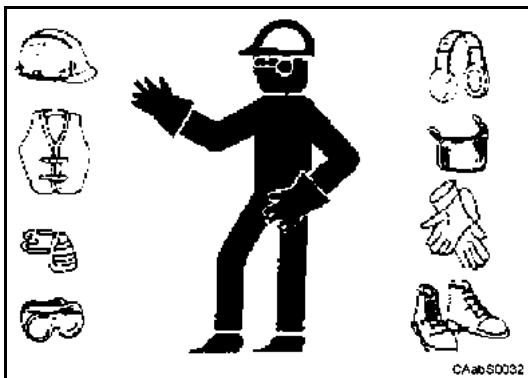

Fig. 7
- 5 Usare indumenti e protezioni adatte allo scopo come: tuta, guanti protettivi e cuffie (Fig. 7).
- 5 Wear suitable clothing and protection such as overalls, safety gloves and ear safety devices (Fig. 7).